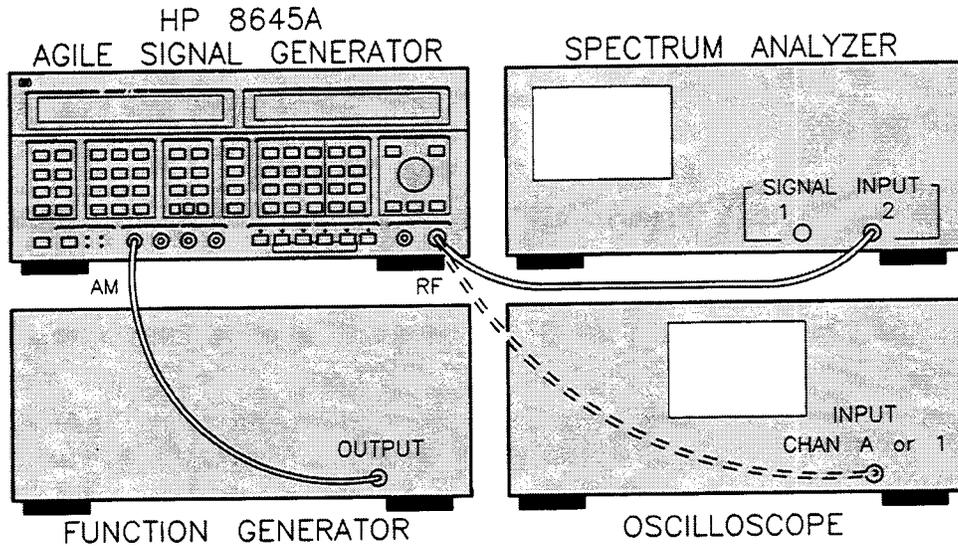

Figure 2-6. Equipment Setup for AM Procedure #2.
1. Connect the HP 8645A to the Spectrum Analyzer (or Oscilloscope) and Function Generator as shown in figure 2-6. Turn on the equipment and make the following adjustments: